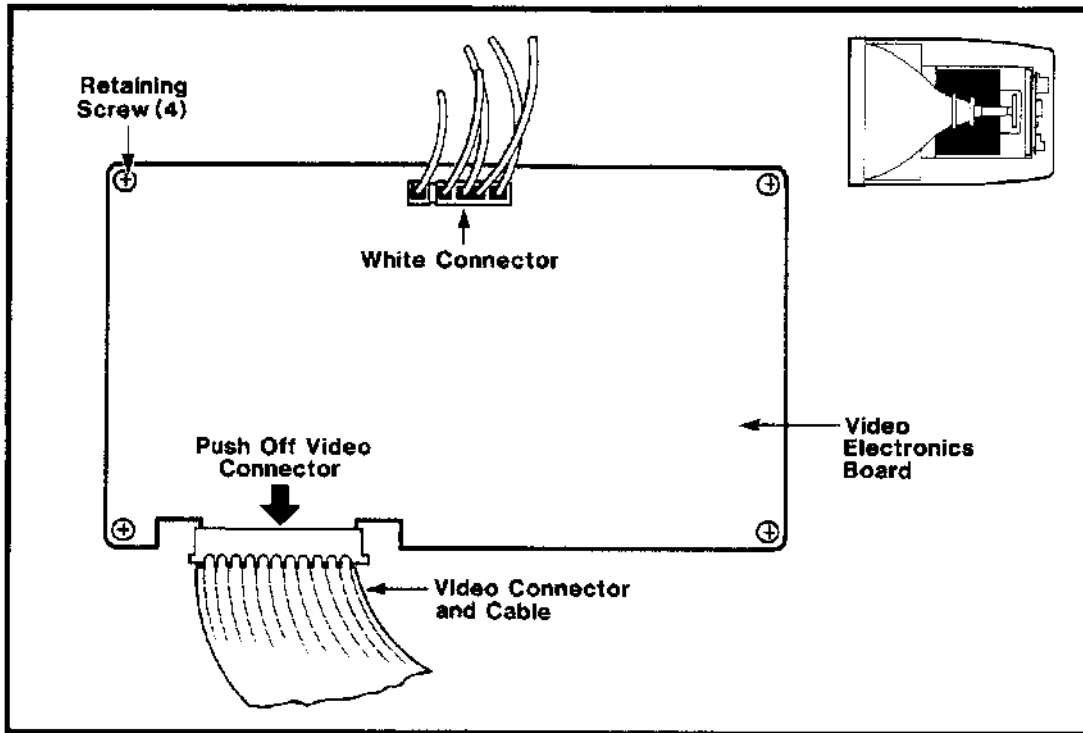

Figure 6-6: REMOVING THE VIDEO BOARD CONNECTORS
3. Remove the edge connector that connects the video electronics board to the C-5 logic board (Figure 6-6).
6. Remove the white connector (toward the front of the C-5) from the video electronics board, noting polarization (Figure 6-6).